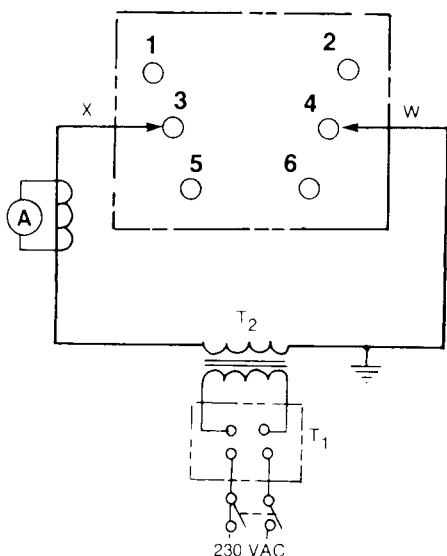

Figure 25. Test circuit for checking ground-trip accessory.
A suggested test circuit is shown in Figure 25. The following equipment is required for the recommended test setup:
1. Connect low-voltage test leads X and W to the bushings of Phase B or C (terminals 3 and 4, or 5 and 6). See Figure 25.
1. Connect low-voltage test leads X and W to the bushings of Phase B or C (terminals 3 and 4, or 5 and 6; Figure 25).